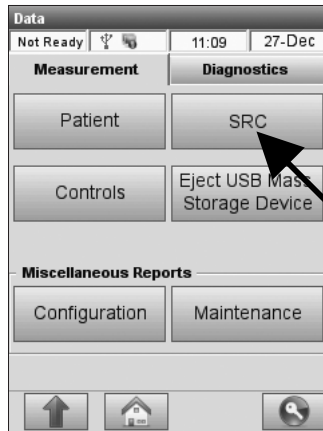

Fig. 6-5 Select SRC
2. On the **<Measurement>** tab, select **<SRC>** (Fig. 6-5).